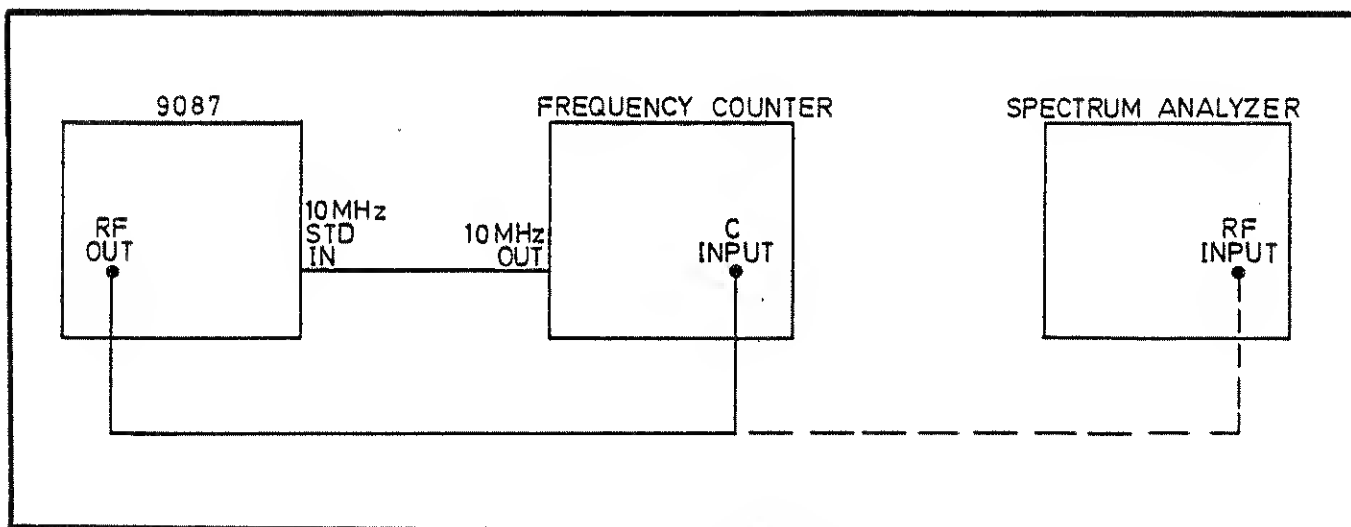

Fig 3.1 Functional Check Connections
3.6.1.3 Connect the 9087 under test to the frequency counter as shown in Fig. 3.1. If a frequency counter other than the 9514 is used it is permissible to use the frequency standard in the 9087 as the reference. In this case the frequency counter should be set to operate from an external standard input, which should be provided from the 10 MHz STD OUT socket of the 9087